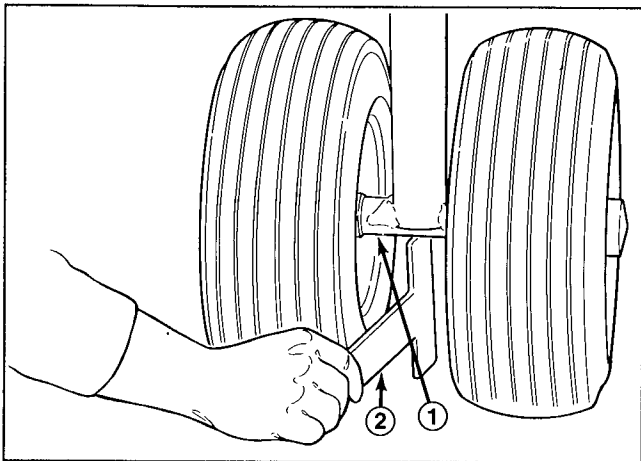

Figure 20
2. Slide short end of frame height gauge under front axle to verify height. Gauge should contact axle when on floor. Check both sides (Fig. 20).